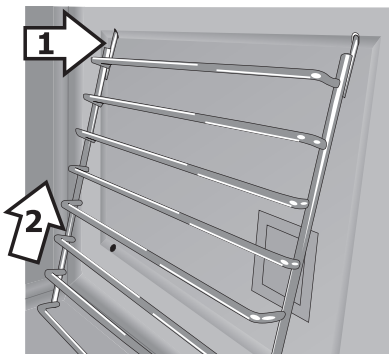

Figure 13: Ladder rack supports - top prongs
1. Hold the oven rack support at a slight angle and insert prongs into the holes at the top of the oven cavity (Figure 13).
2. Lift the rack into the top holes, aligning the bottom prongs with the bottom holes (Figure 13).